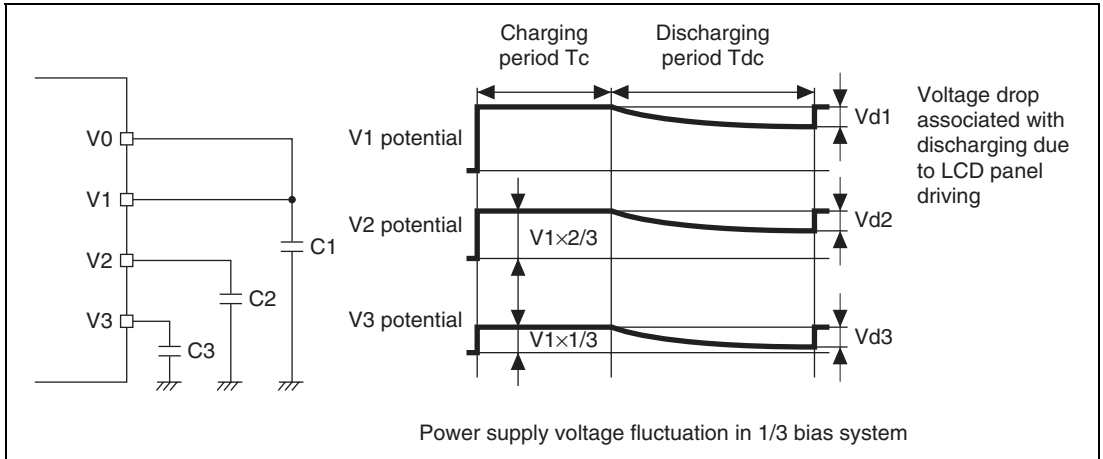

Figure 13.10 Example of Low-Power-Consumption LCD Drive Operation
(1) Principles
- a. Capacitors are connected as external circuits to LCD power supply pins V1, V2, and V3, as shown in figure 13.10.
- b. The capacitors connected to V1, V2, and V3 are repeatedly charged and discharged in the cycle shown in figure 13.10, maintaining the potentials.
(2) Example of Operation (with 1/3 bias drive)
- a. During charging period T_c in the figure, the potential is divided among pins V1, V2, and V3 by the built-in split-resistance (the potential of V2 being 2/3 that of V1, and that of V3 being 1/3 that of V1), as shown in figure 13.10, and external capacitors C1, C2, and C3 are charged. The LCD panel is continues to be driven during this time.
- d. In this way, the capacitors connected to V1, V2, and V3 are repeatedly charged and discharged in the cycle shown in figure 13.10, maintaining the potentials and continuously driving the LCD panel.